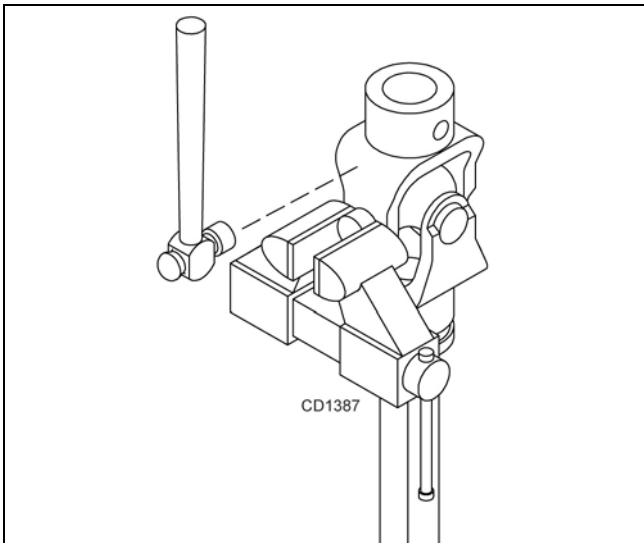

Figure 24
3. Clamp cup in vise as shown in Figure 24 and tap on yoke to completely remove cup from yoke. Repeat Step 2 and Step 3 for opposite cup.